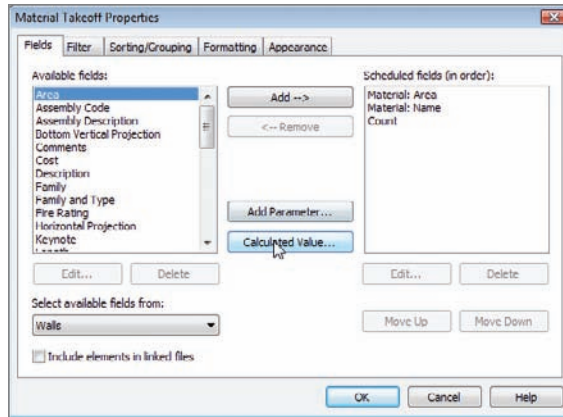

FIGURE 11.34 Click the Calculated Value button in the middle of the dialog.
3. On the Fields tab in the Material Takeoff Properties dialog, click the Calculated Value button in the middle of the dialog, as shown in Figure 11.34.